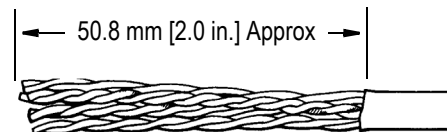

Figure 4
1. Trim the cable to length. Strip the cable to the dimension given in Figure 4.